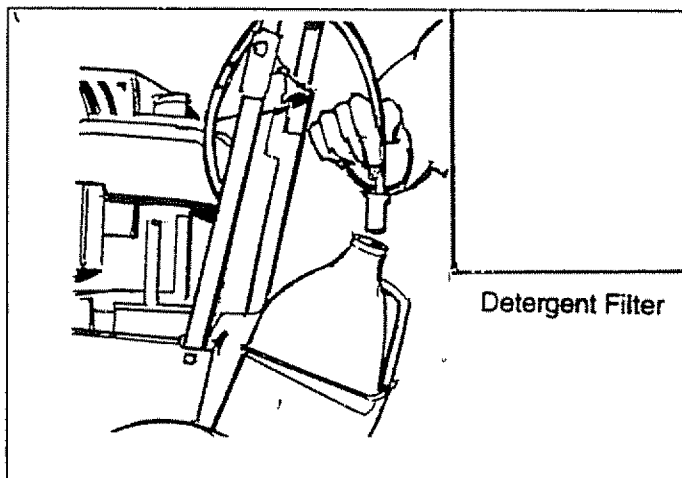

FIG. 18
- Place small filter of clear, detergent syphoning tube into detergent container (Fig. 18) placed in the wire basket.